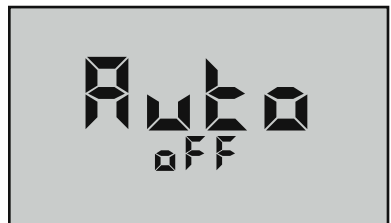

Figure 23
3. Press  repeatedly until you pass the “CELL ch” location. The display will show “Auto OFF” (see Figure 23).